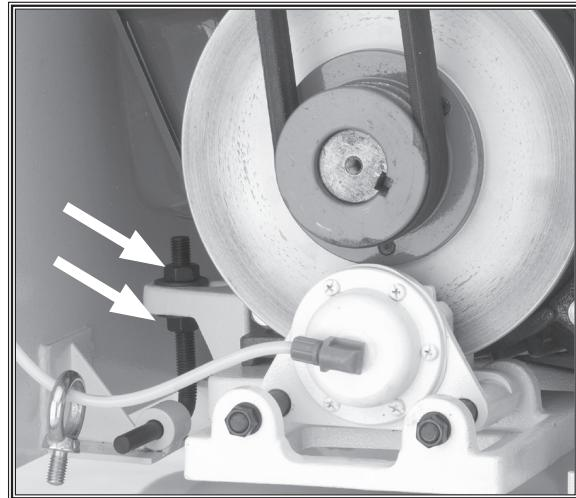

Figure 30. Sanding motor V-belt adjustment.
3. The two nuts shown in Figure 30 are responsible for adjusting the V-belt tension. Turn both nuts clockwise to tighten the V-belts, or turn both nuts counterclockwise to loosen the V-belts.